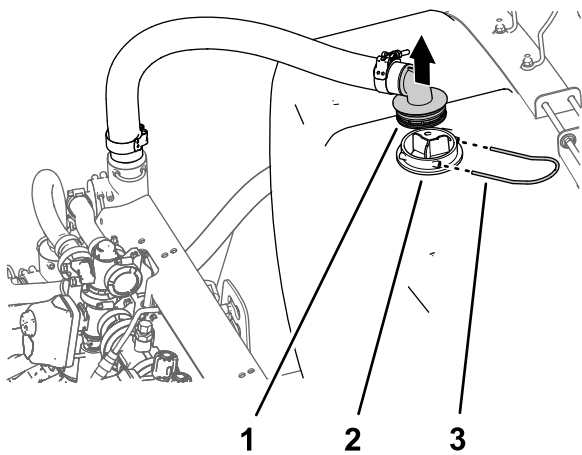

Figure 12
4. Remove the retainer fork that secures the 90° barbed fitting of the supply hose to the housing of the suction screen (Figure 12).